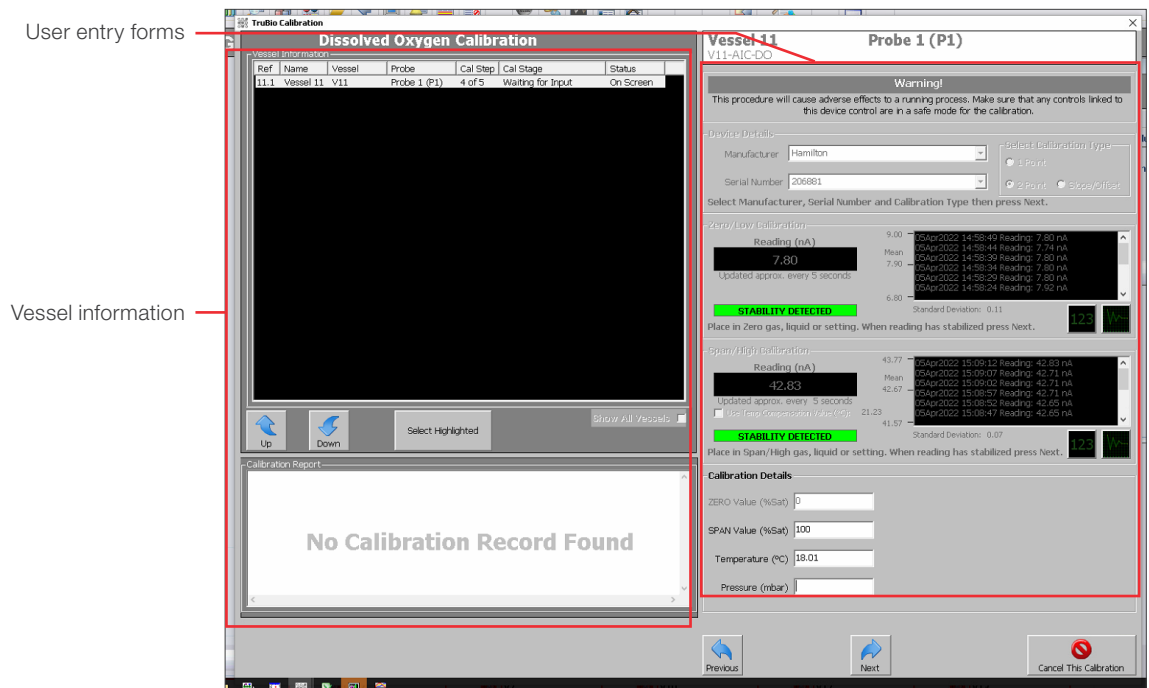

Figure 3.22. DO Calibration window.
2. Enter the manufacturer and the serial number of the probe to be calibrated under **Device Details**. If the probe has previously been calibrated, you can select the serial number from the Serial Number drop-down menu (see Figure 3.22).